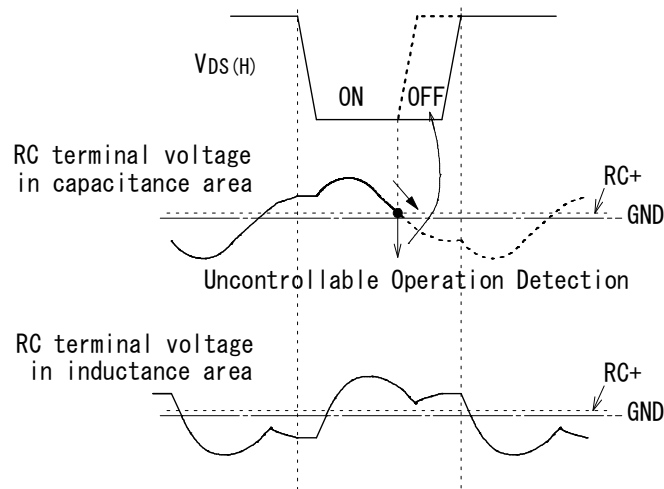

Figure 7-19 Uncontrollable Operation Detection on High-side MOSFET
- During High-side MOSFET turns on, when RC terminal voltage crosses $V_{RC} = +0.155V(TYP)$ on the condition that RC terminal voltage changes from plus to minus, the control circuit detects Uncontrollable Operation (refer to RC Terminal Voltage in Capacitance Area waveform in Figure 7-19), and thus, High-side MOSFET turns off and Low-side MOSFET turns on.